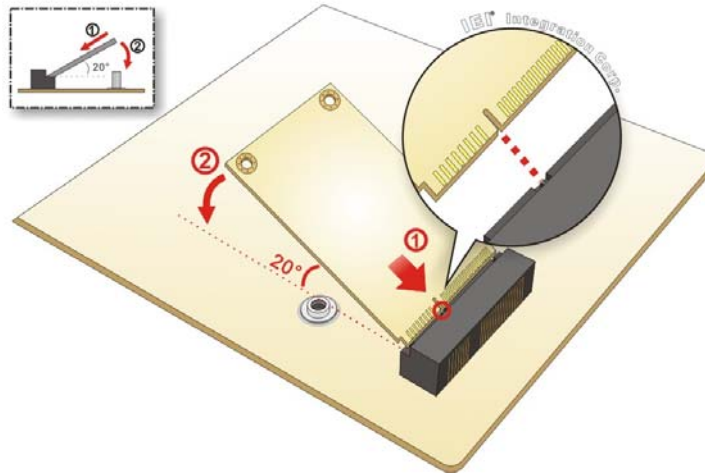

Figure 4-4: Inserting the Full-size mSATA Module into the Slot at an Angle
Step 3: Insert into the socket at an angle. Line up the notch on the mSATA module with the notch on the slot. Slide the mSATA module into the socket at an angle of about 20° (Figure 4-4).